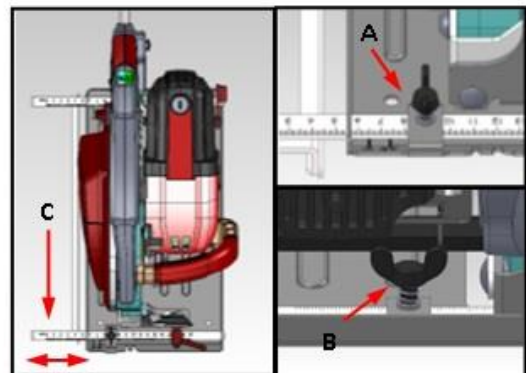

Fig.20
The guide ruler (A) is used on the right of the blade. **Fig.20.**